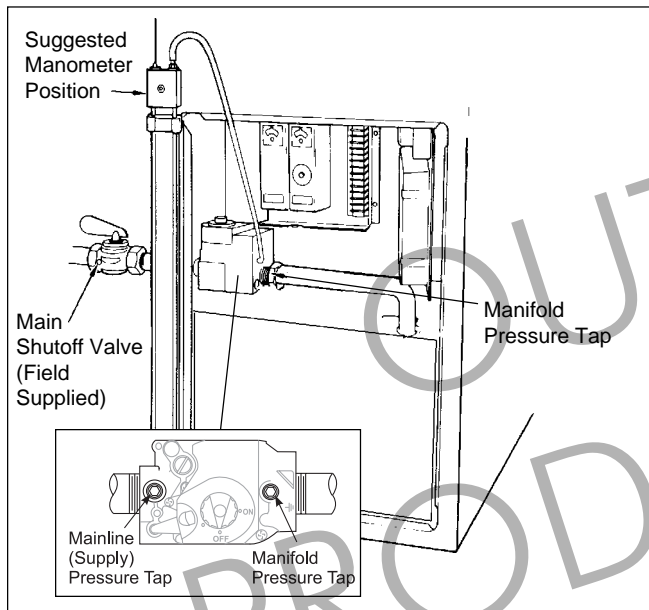

Figure 36. Gas Manifold Pressure Test.
1. Attach a manometer (or a dry gas pressure gauge) to heater jacket (see Figure 36).